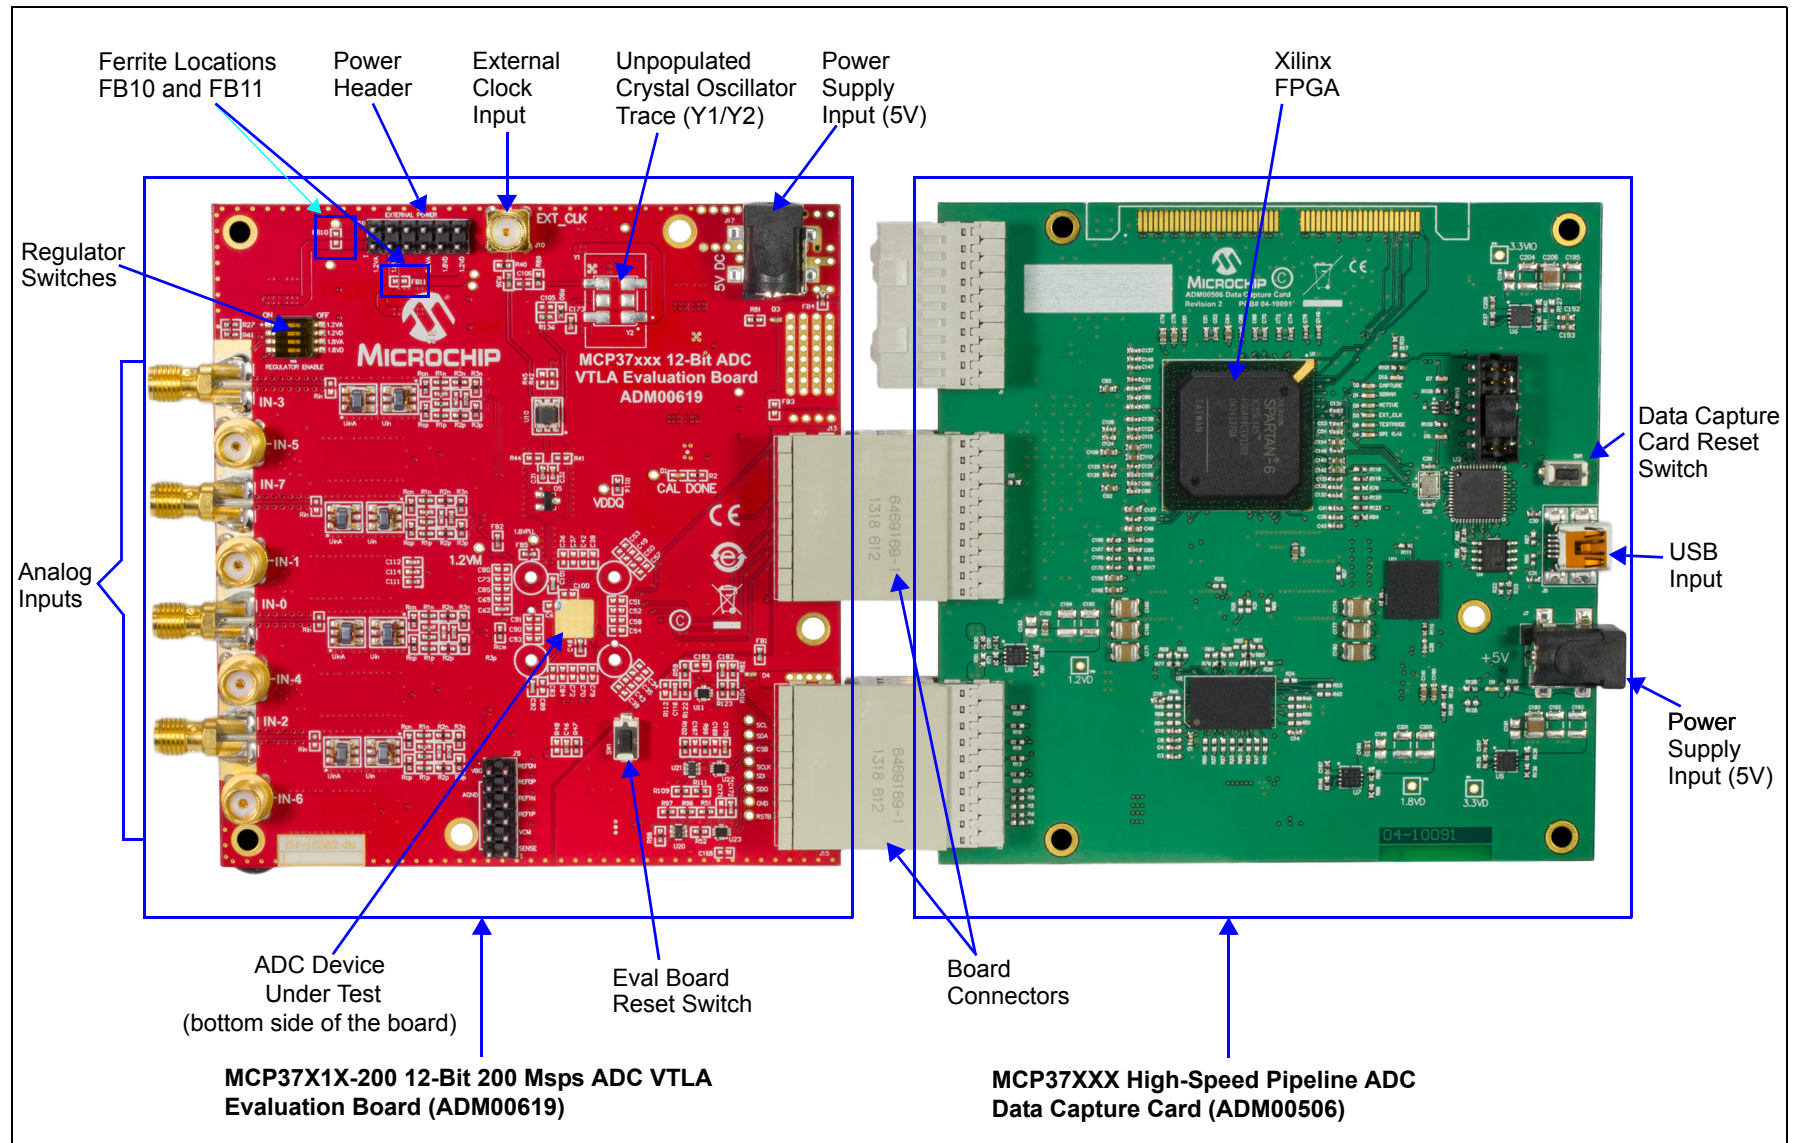

FIGURE 2-1: Evaluation Kit - The evaluation board connected to the data capture card.
1. Connect the evaluation board and data capture card as shown in Figure 2-1.
This evaluation kit comes with two Mean Well wall-mountable switching power supplies (GS06U-1P1J), one for each of the boards. These power supplies are able to provide a 5V, 1A maximum output. They can be connected to an AC wall outlet rated between 90V AC and 264V AC, at a frequency of 47 Hz to 63 Hz. The other end of the power supply is a 2.1 mm barrel plug that connects to both the evaluation board and the data capture card (see Figure 2-1). If the user chooses to connect a different external power supply, a minimum output of 750 mA is required.
- A clean and low-jitter clock signal can be connected to the external clock SMA input (see Figure 2-1). For the signal generation, Rohde & Schwarz® SMA or Agilent Technologies HP8644B signal generators can be used. To ensure that a clean and low-jitter clock signal is provided, the user should interpose a band-pass filter to reduce the phase noise coming from the signal source. A TTE® Inc. KC4T-200M-10P-50-3A filter can be used with a 200 MHz clock signal.